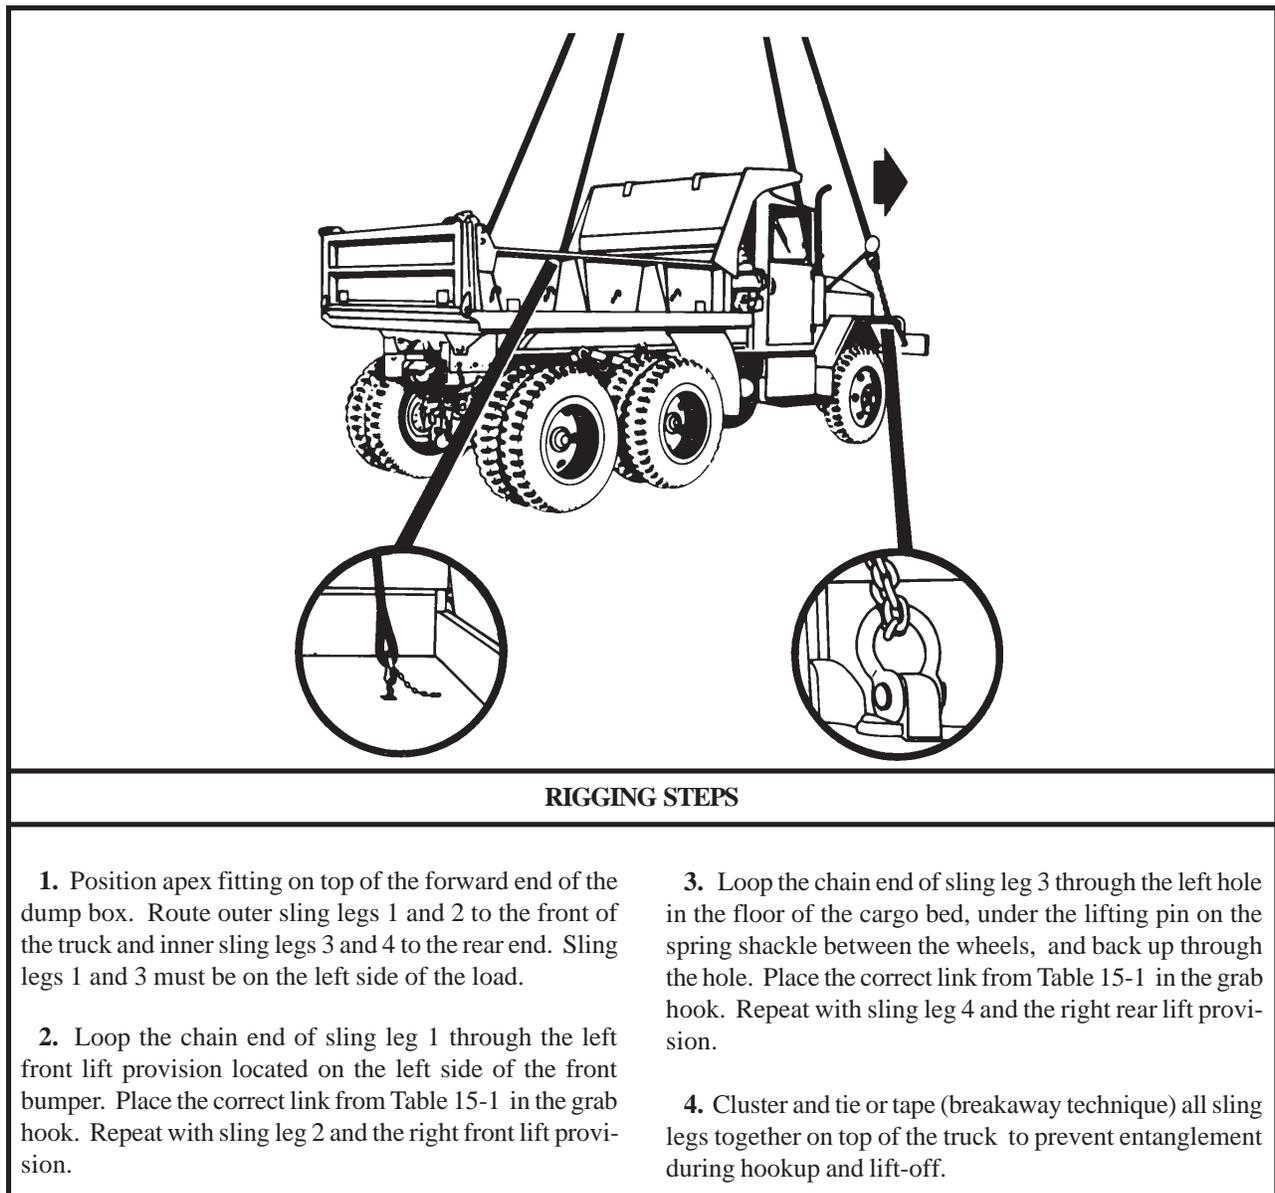

Figure 15-1. M342A2 2 1/2-Ton Dump Truck with Winch
(2) **Rigging.** Rig the load according to the steps in Figure 15-1.